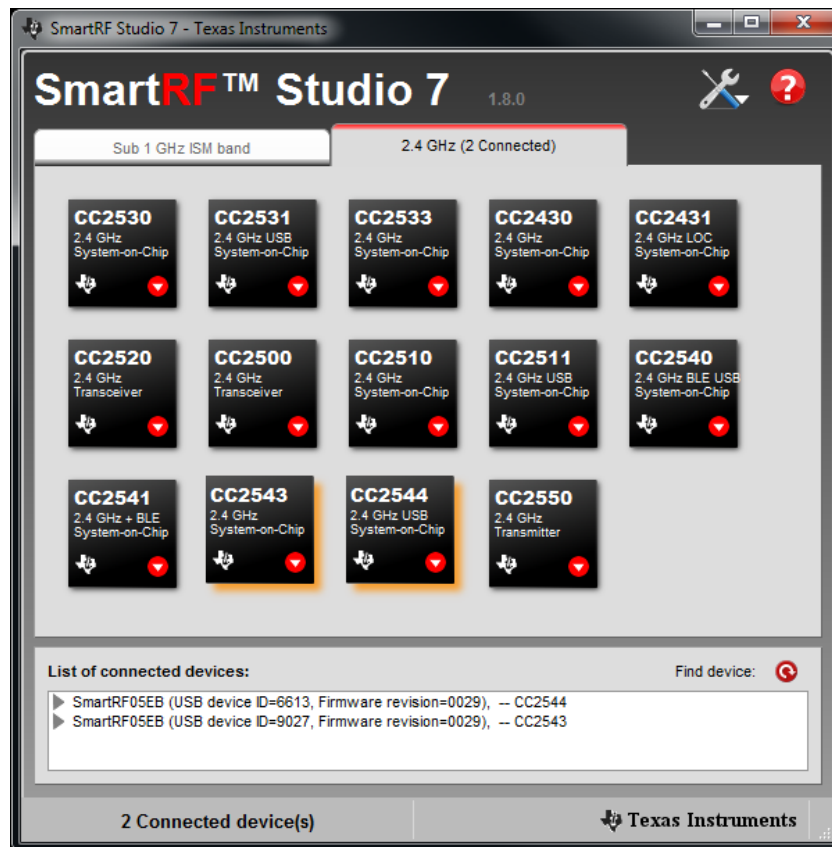

Figure 3 - CC2543 and CC2544 in SmartRF Studio
- Double click on both of the devices in the device list in SmartRF Studio (Figure 3), opening one “Device Control Panel” for each device, giving control of the two radios at the same time.